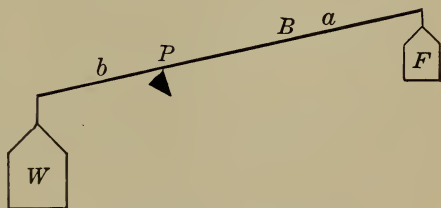

FIGURE 244. — THE LEVER.
**277. The Lever.** — The lever consists of a rigid bar ( $B$ ) Figure 244, a weight ( $W$ ), a force ( $F$ ), and a pivot ( $P$ ).  $W$  represents the *force overcome*, which is often the weight of an object being lifted;  $F$  represents the *force applied*; while  $P$  is the *point about which the bar turns*.
lever  $\frac{a}{b} = \frac{W}{F}$ . (Figure 244.) Therefore to find the